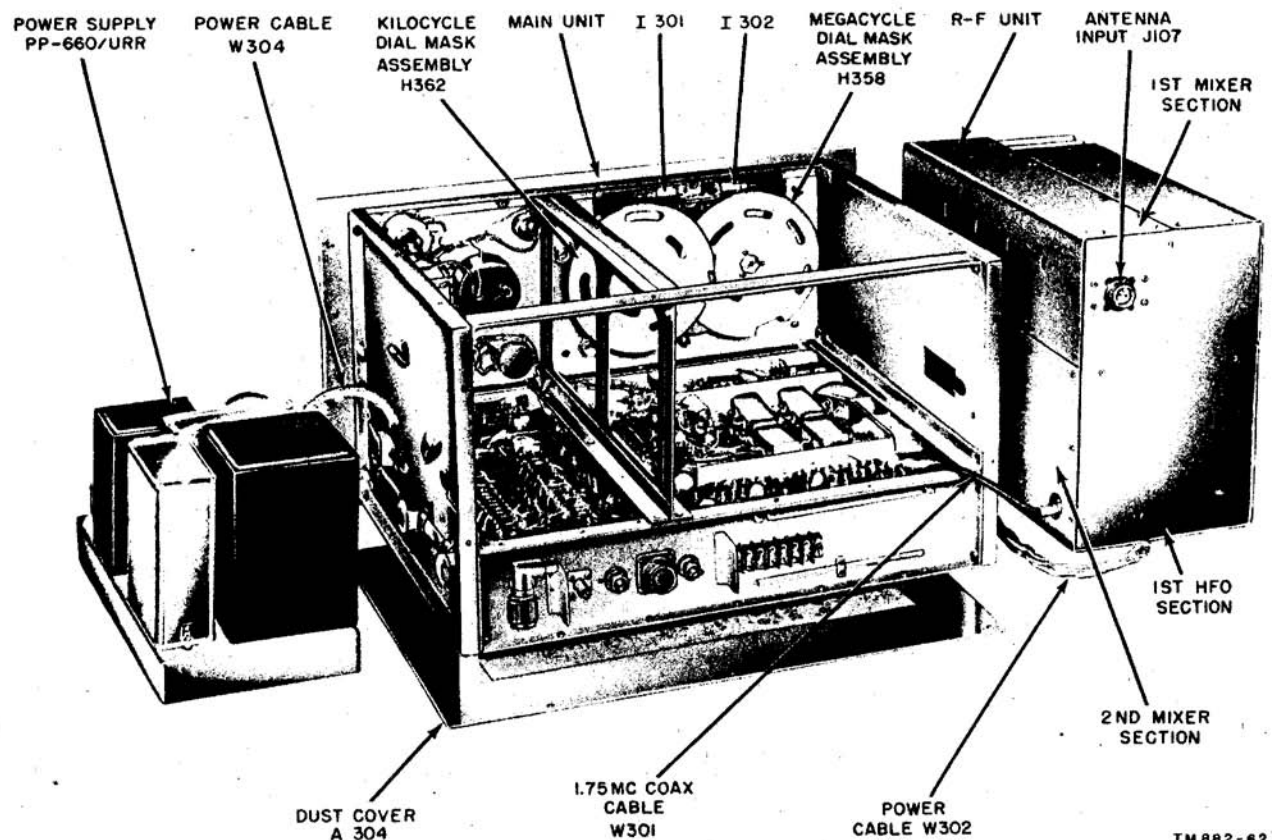

Figure 101. Radio Receiver R-220/URR, with rf unit and power supply removed.
- (4) Free the coaxial cable from the rf unit, drawing it down through the opening in the main unit.
- (5) Slide the rf unit completely out of the main unit (fig. 101).
*b. Removal of Dust Covers* (fig. 101). The rf unit contains the first hf oscillator section, first mixer section, and the second mixer section. All band selection and tuning of the received signal is done in the rf unit. The rf unit is shielded on all sides by dust covers, but most adjustments that apply to the rf unit can be made through small holes in the covers of the several sections without removing the covers. For changing tubes and making minor replacements, it is also possible to remove one cover to gain access to a given section without disturbing the covers of the other sections.
#### *c. Removal of Rear Cover* (fig. 101).
*f. Assembly of Control Head.* When replacing the individual assemblies on the control bearing plates, reverse the instructions given for their removal. To reassemble the control bearing plates, proceed as follows and refer to figures 101, 106, 122, and 123.